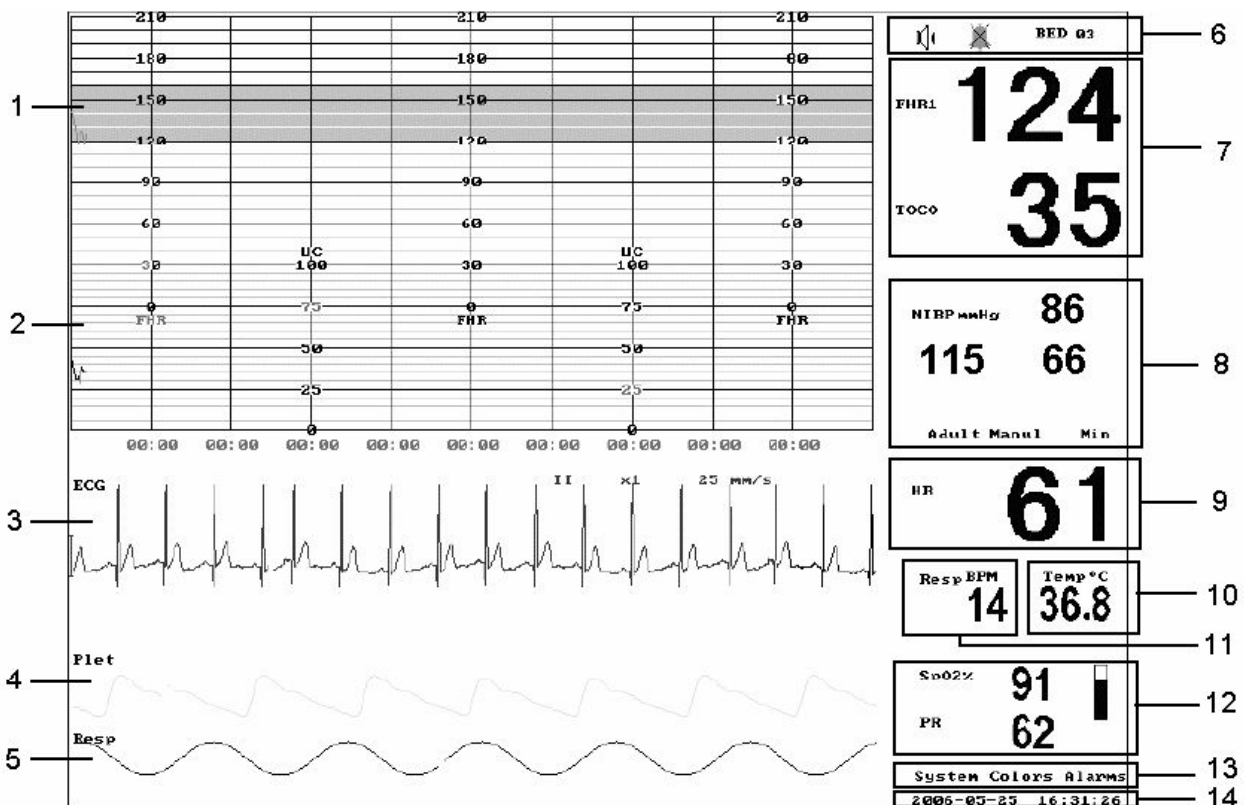

Figure 4.1 Initial Screen
- 3. **ECG monitoring:** the real-time ECG of the patient being monitored and the information of ECG lead, ECG wave gain and ECG scanning speed display in this area. As shown in Figure 4.1, the current lead selection is "II", ECG wave gain is "X1" and ECG scanning speed is "25mm/s".